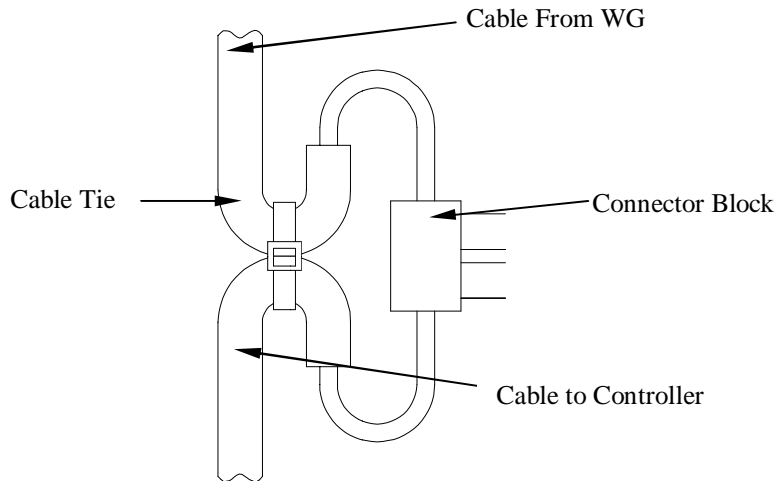

Fig 11. Cable strain relief
- Connect the wind generator flying leads to the cable protruding from the tower using the connector block supplied or other suitable connector. *(The generator output is 3 phase ac, therefore these connections can be made in any sequence).* Wrap the connection with insulation tape to secure/protect from the environment. *It is recommended that cable restraint is fitted to prevent the weight of cable applying excessive load to the connections, a simple method of achieving this is shown in Fig 11.*